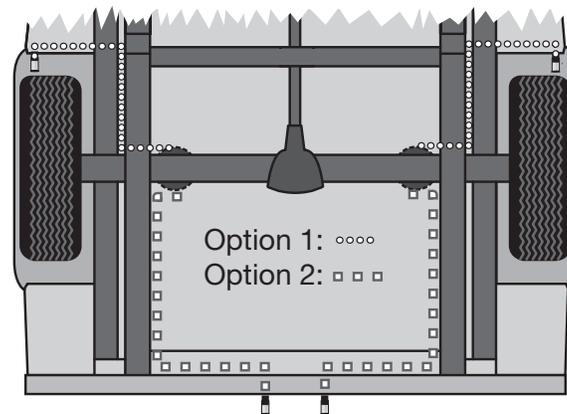

fig. 9
6. Route the air line along the frame to the air fitting on the air spring (Fig. 9). Keep AT LEAST 6" of clearance between the air line and heat sources, such as the exhaust pipes, muffler, or catalytic converter. Avoid sharp bends and edges. Use plastic tie straps to secure the air line to fixed points along the chassis. Be sure that the tie straps are tight, but do not pinch the air line. Leave at least 2" of slack to allow for any movement that might pull on the air line.